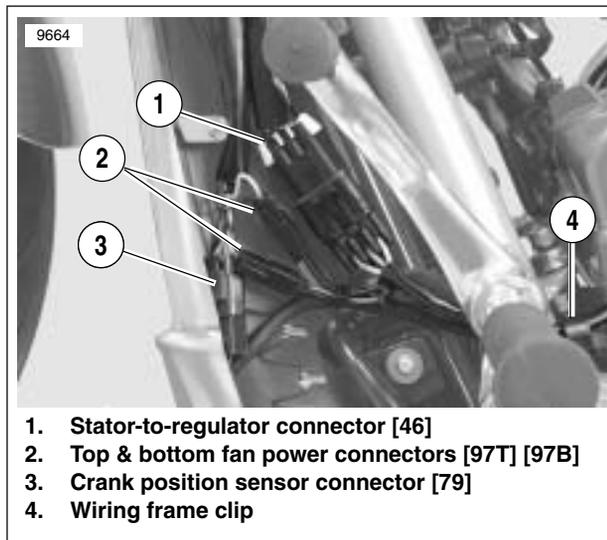

Figure 2-12. Left Side Wiring Connectors
20. See Figure 2-12. Separate:
- a. Crank position sensor connector [79] (3).
- b. Top and bottom cooling fan connectors [97T] [97B] (2).
- c. Stator-to-regulator connector [46] (1).
- d. Wiring frame clip (4).